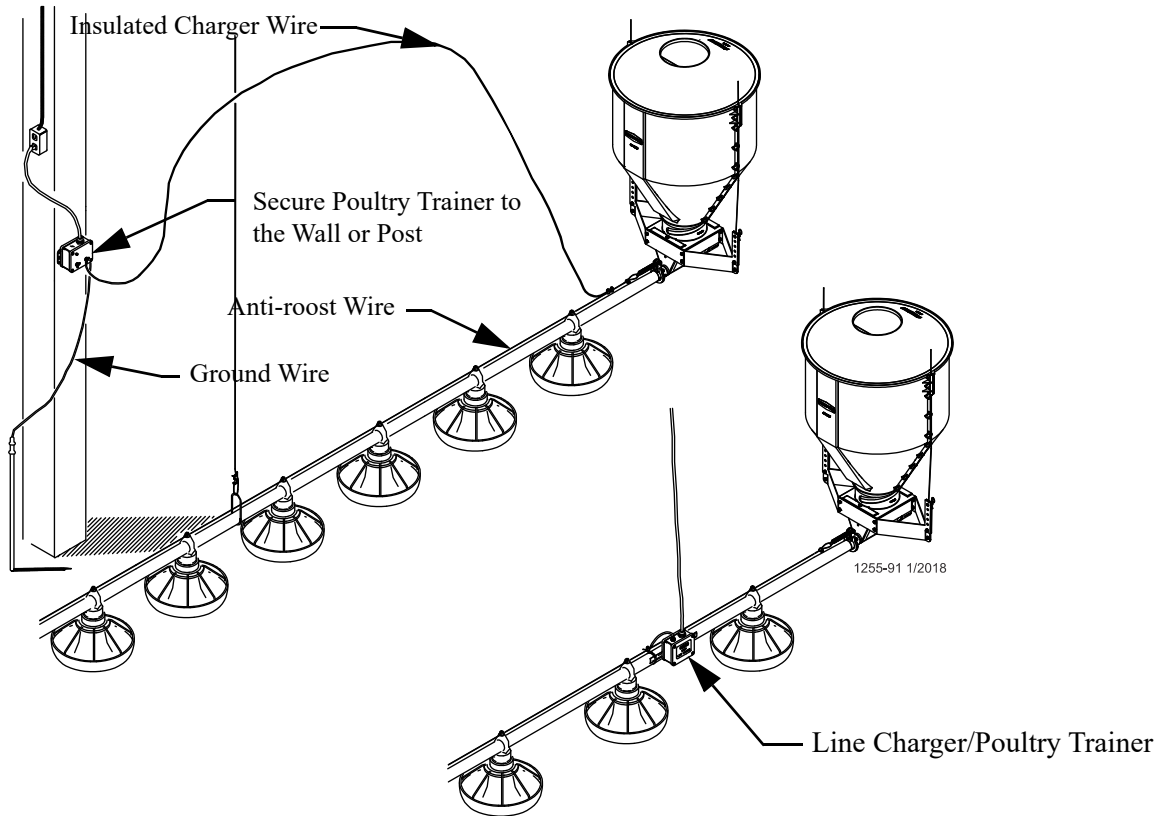

Figure 70. Poultry Trainer Installation
11. Install the Poultry Trainer or Line Charger, as shown in **Figure 70** or **71**.